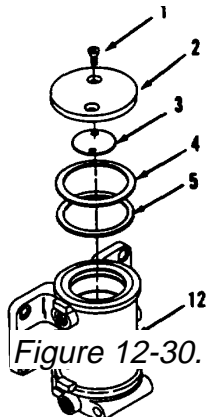
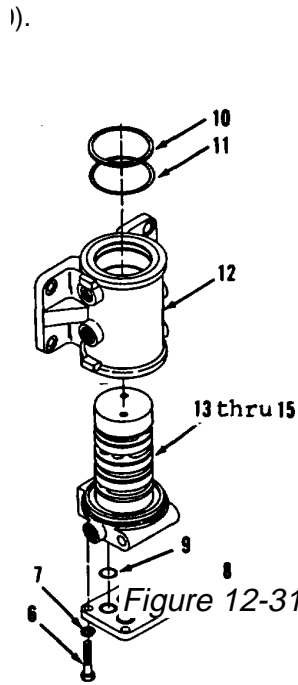

Figure 12-30.
Figure 12-31.
1. Lubricate new seals (14 and 13) with hydraulic fluid and install on rotor (15, Figure 12-31).
2. Lubricate seven new preformed packings (11) and new seals (10) with hydraulic fluid (12, Figure 12-31).
3. Using a press, install items 15 thru 13 as an assembly.
4. Lubricate four new preformed packings (9) with hydraulic fluid.
5. Install cover (8), four lock washers (7) and bolts (6).
6. Lubricate two new seals (5 and 4, Figure 12-30) with hydraulic fluid.
7. Install two new seals (5 and 4), shim (3), retainer (2) and shim(s) (3) to obtain required gap.
8. Measure gap between retainer (2) and body (12). Install shim(s) (3) to obtain required gap.